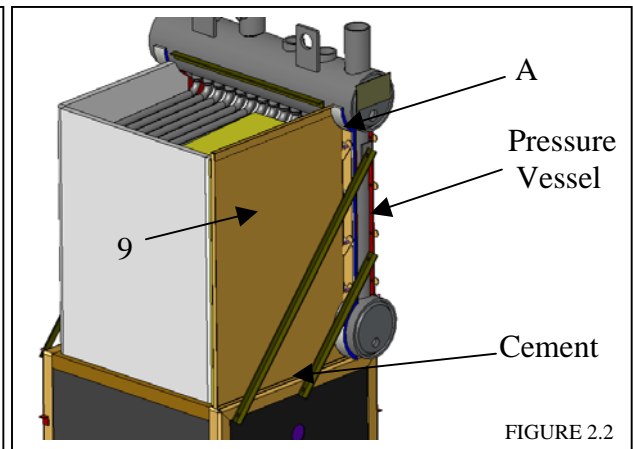

FIGURE 2.2
- 2.3 Apply furnace cement to the inside edges of the flue collector rear panel (Item #9) that contact surfaces of Pressure Vessel assembly and burner Base Assembly. See Fig. 2.2, Points A.
- 2.4 Slide flue collector rear panel (Item #9) into place against vessel. Secure to vessel with clamps and washers. See Figure 2.2.